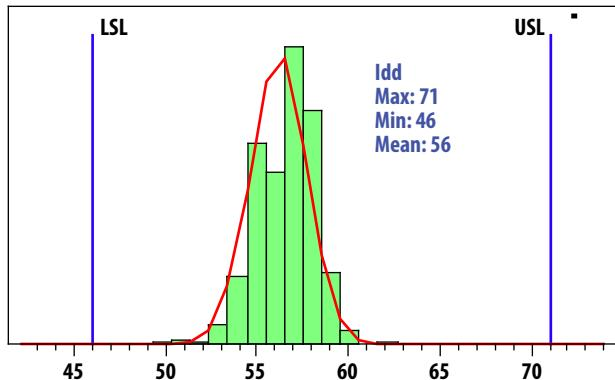

Figure 1. Idd @ 2.5GHz, 5V, 56mA Mean = 56
RF performance at $T_A = 25^\circ\text{C}$, $V_{dd} = 5\text{V}$, $R_{bias} = 3.6\text{ kOhm}$, 2.5 GHz, measured on demo board in Figure 1 with component listed in Table 1 for 2.5 GHz matching.
1. Measurements at 2.5 GHz obtained using demo board described in Figure 1.